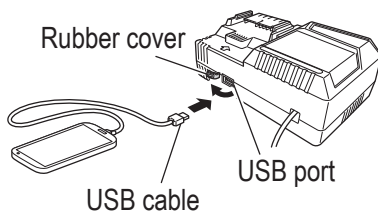

Fig. 19
2. Connect the USB cable. (Fig. 19)